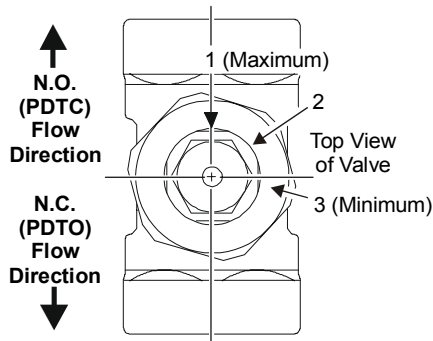

Figure 2: Location of the Cv Selection Marks
* Refer to Figure 2 for the location of the Cv selection marks.